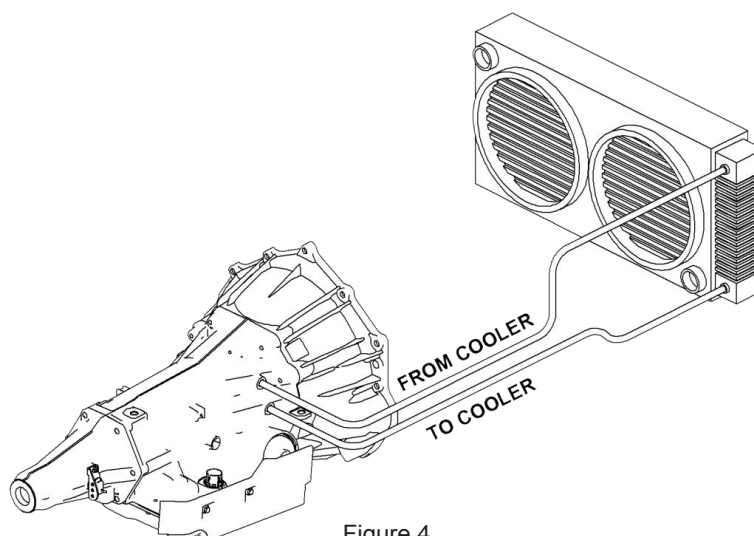

Figure 4
**STEP 17:** Install the Cooler Line Kit onto the right side of the transmission. If the original cooler lines need to be replaced, now is a convenient time to eliminate the Cooler Line Kit and connect the new lines to the JIC-6 flared male fittings on the transmission case directly. The cooler lines should be as short, and with as few bends as possible. **Reference Figure 4.**